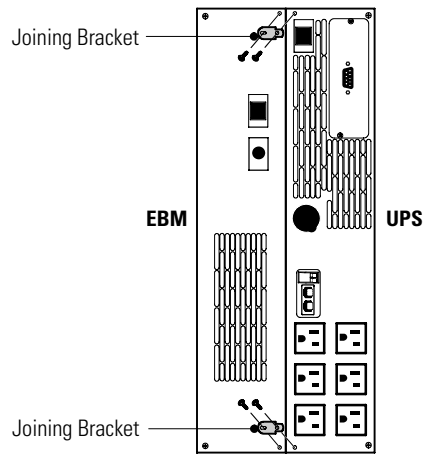

Figure 10. Installing the Joining Brackets
7. Remove the adjacent corner screws from the rear panels as shown in Figure 10 to install the joining brackets. Discard the screws.